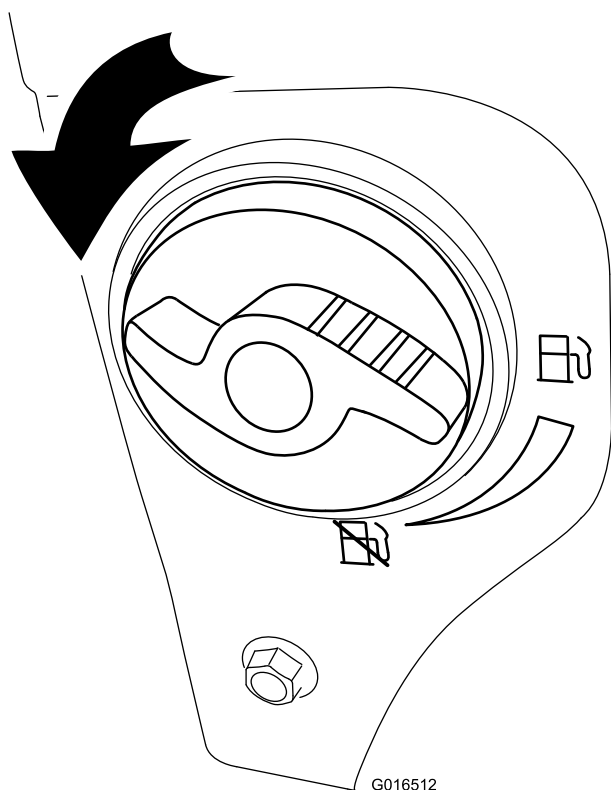

Figure 19
2. Turn the fuel-shutoff valve 1/4 turn counterclockwise to open it (Figure 19).